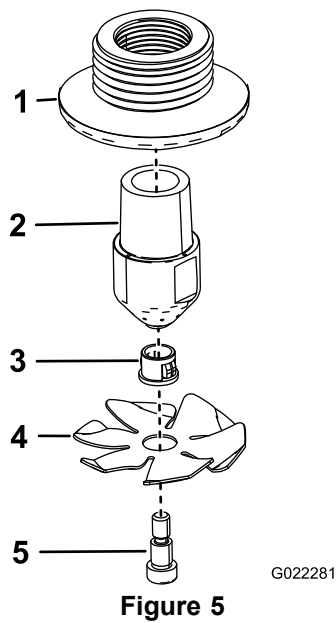

Figure 5
1. Assemble the 2 rinse nozzles as shown in Figure 5.